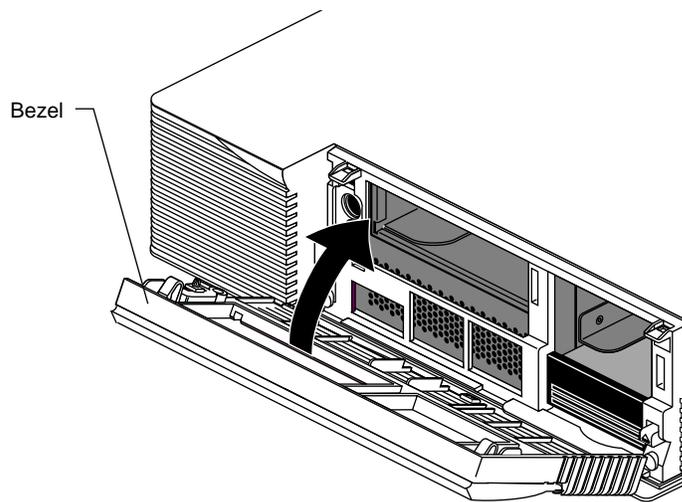

Figure 1-41 Replacing the Bezel
3. Replace the bezel, as shown in Figure 1-41.